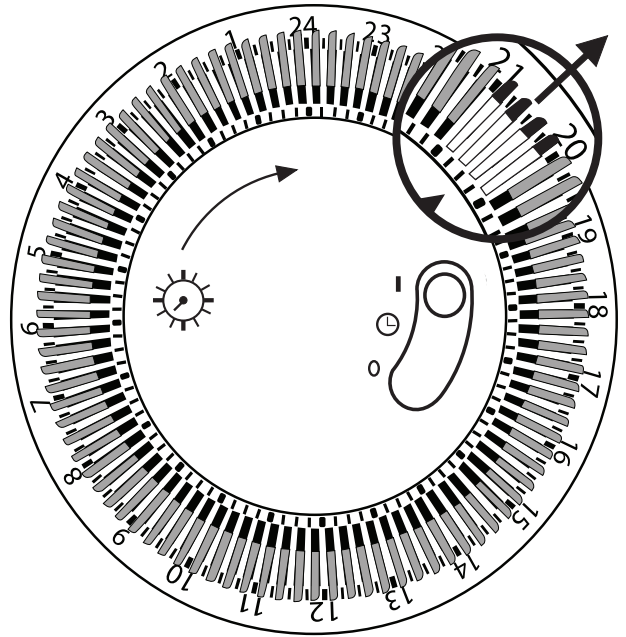

Fig 1
1. Turn the radiator upside-down on a scratch-free and stable surface to prevent damage to the paint finish or your floor surfacing **(see Fig 1)**.
NOTE: To set the heater to turn on at 8pm and turn off at 9pm, push 4 segments between 20 and 21 outwards (**Fig 1**).